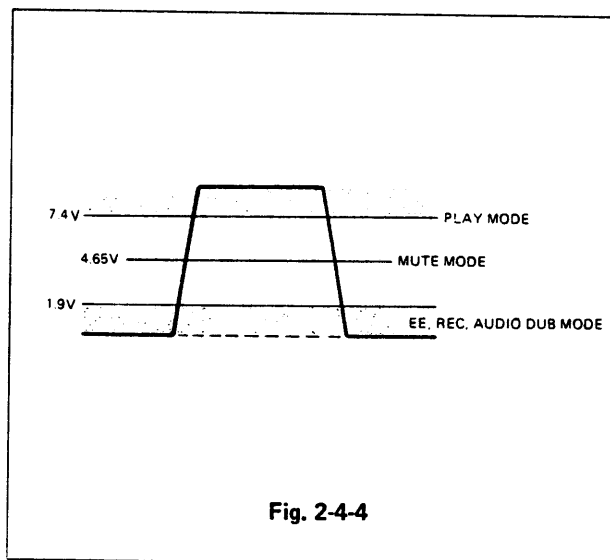

Fig. 2-4-4
As shown in Fig. 2-4-4, muting is applied when the voltage of the EE mode, the REC mode, and the PLAY mode reaches approximately its halfway level. When the mute signal (approximately 9 V) from the system control circuit is input to terminal (2) of S1004, Q2005 is switched ON and muting is applied.